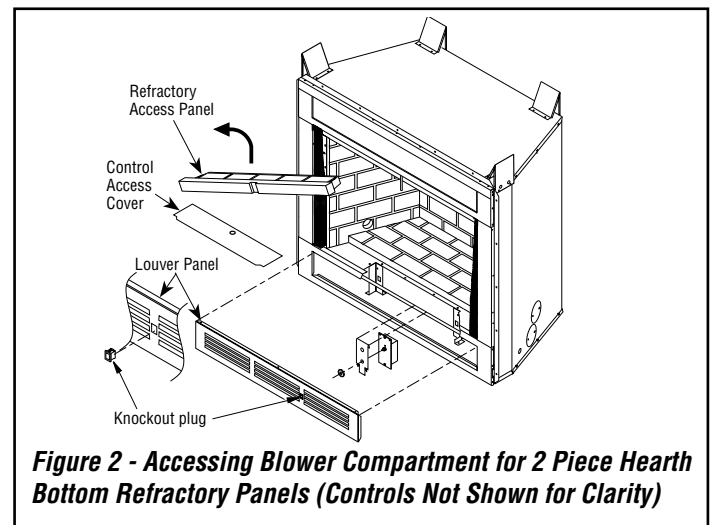

Figure 2 - Accessing Blower Compartment for 2 Piece Hearth Bottom Refractory Panels (Controls Not Shown for Clarity)
1. Remove hearth bottom refractory access panel by lifting up and angling out through fireplace opening. See *Figure 2*.
4. Remove knockout plug from lower louver panel. See *Figure 2*.